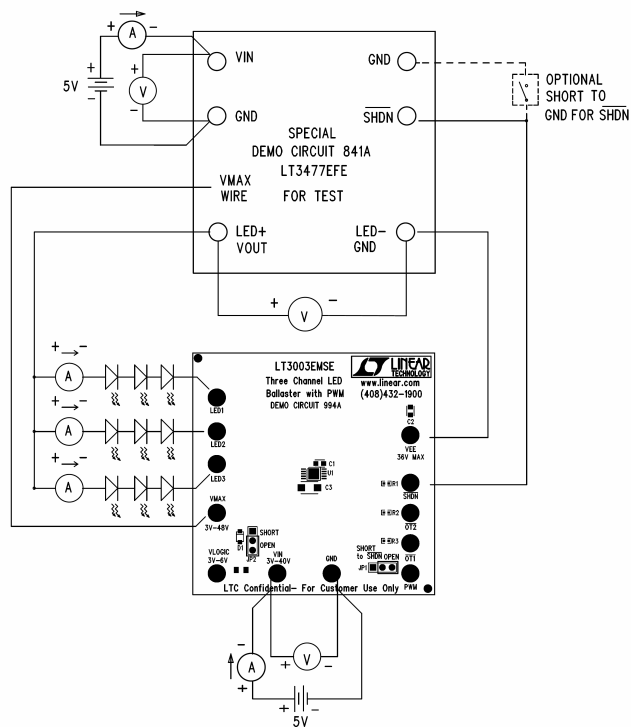

Figure 1 Proper Measurement Equipment Setup with DC841A in Boost Mode JP1=JP2=open
Follow the test procedure outlined below and see Figure1 to setup and test the LT3003 in the boost LED driver topology. The LT3003 needs to run with three strings of LEDs and an LED driver. The LEDs and LED driver do not come with DC994A, it is a standalone demonstration circuit that is meant to be used with different LED drivers in different topologies for evaluation.
4. Connect the VMAX terminal of the DC994A to the output voltage at the output capacitor of the boost LED driver. The DC841A shown in Figure 1 does not have a terminal for this node, so a wire has to be soldered to the output capacitor.